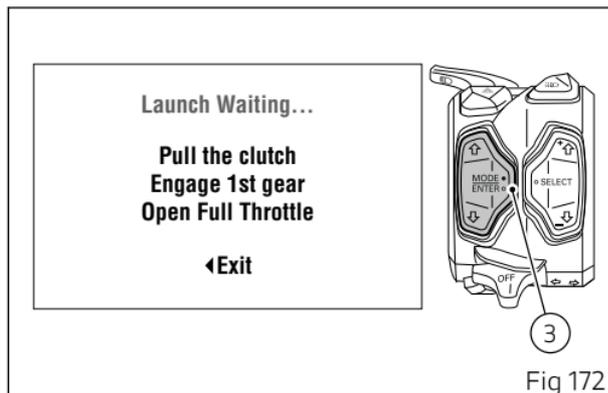

Fig 172
Once the DPL level is set, the instrument panel shows the wait screen for 2 seconds (Fig 172): during this time, if you press the ENTER button (3), the wait phase is interrupted and the instrument panel displays the main screen and sets the DPL to OFF. Then the instrument panel shows the "assisted launch" screen (Fig 173). After the assisted start, the instrument panel sets the DPL to OFF and shows the main screen again. The DPL is set to OFF by default by Ducati.